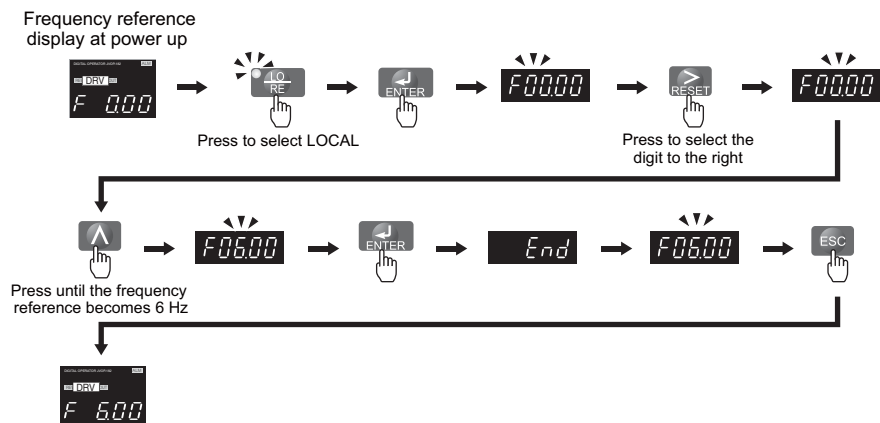

Figure 4.5 Setting the Frequency Reference while in the Drive Mode
**Figure 4.5** illustrates how to change the frequency reference from F 0.00 (0 Hz) to F 6.00 (6 Hz) while in the Drive Mode. This example assumes the drive is set to LOCAL.